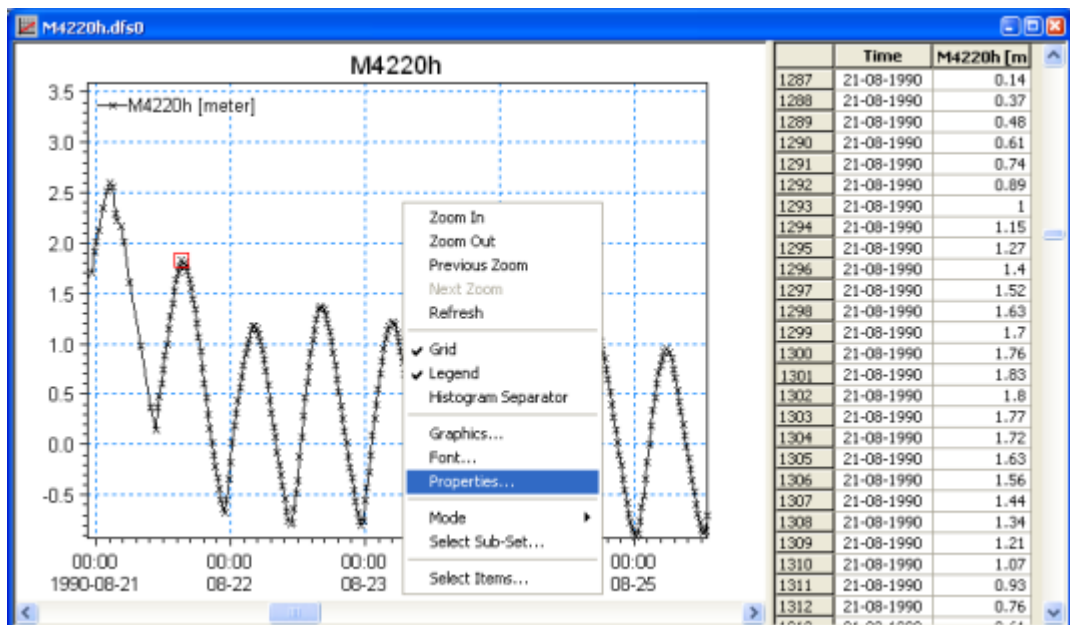

Figure 5.8: Time series editor; Time series data dialog
The time series data dialog consists of two views, a tabular view and a graphical view (see Figure 5.8.
- To activate the pop-up menu as shown on figure 5.8 place the cursor in the graphical view and press the right mouse button.